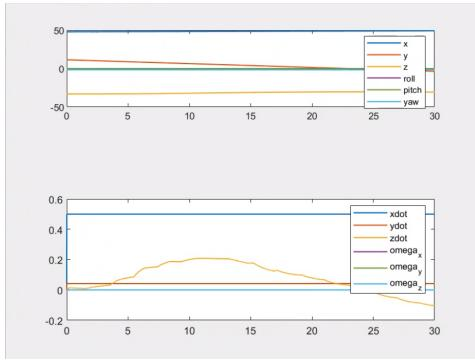

Figure 9: Position and velocity plot with Minimum Altitude threshold of 1m
- **1 m:** The control task is no more active at the starting instant. The UVMS starts to accomplish the *Vehicle Position* task and, when the seafloor presents an hill, the vehicle starts to follow its shape (Figure 9).